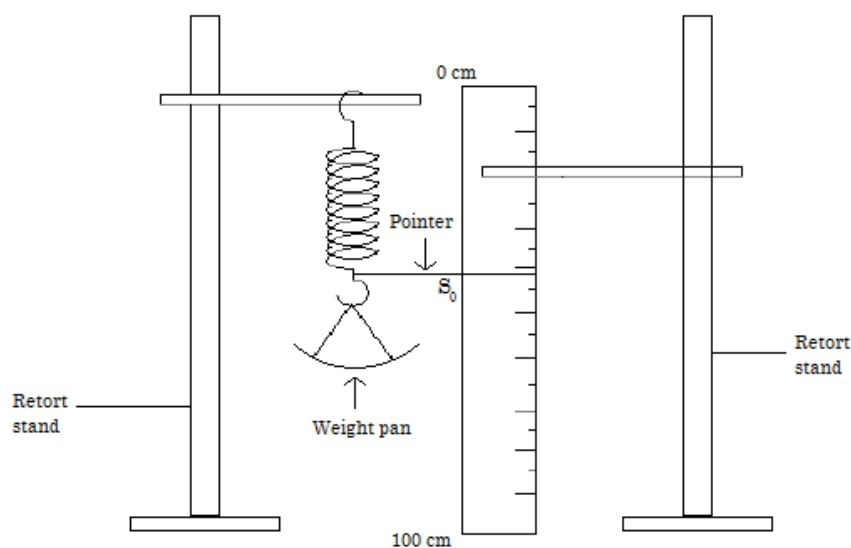

Figure 1
Set up the apparatus provided as shown in figure 1 above. Add 50 g mass on to the weight pan so that any “kinks” in the spring are removed. Leave this weight for the whole experiment but ignore it in all readings. Record the scale reading S_0 . Add 50 g on to the weight pan and record the new scale reading S . Calculate the extension ($e = S - S_0$) caused by the weight. Repeat with different weights (W) to obtain at least five readings. Tabulate your results. Replace the weights (W) by the weight **X** provided and find the corresponding extension.